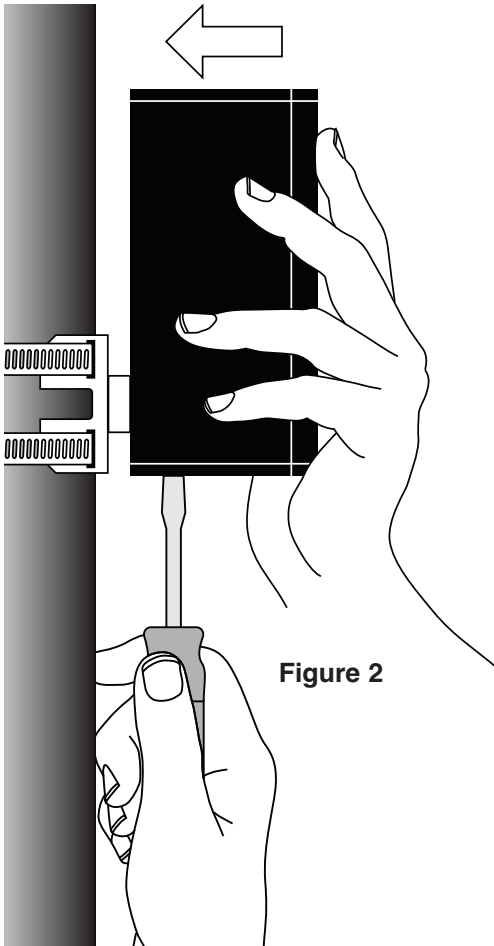

Figure 2
STEP 2 Place control on the bracket. While holding box against bracket, tighten well clamp screw (Figure 2).